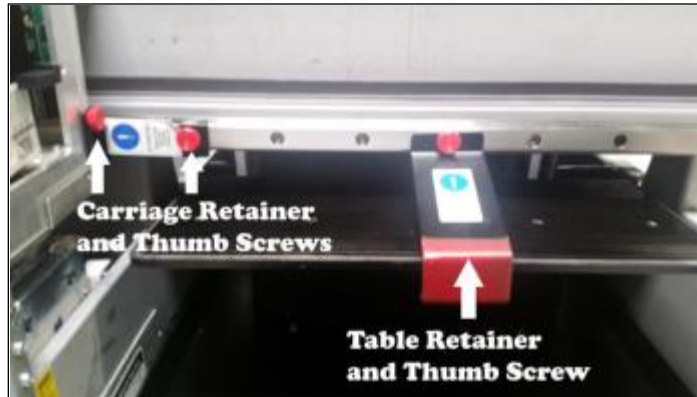

Figure 9.9-1: It is important to place the Table and Carriage Retainer before Transport.
- Install the Carriage and Table Retainers that were with the printer when it arrived. Use the Thumb Screw to tighten the table retainers. (See figure 9.9-1)
Restrain the Print Table and Carriage with Retainers. (see figure 9.9-1)